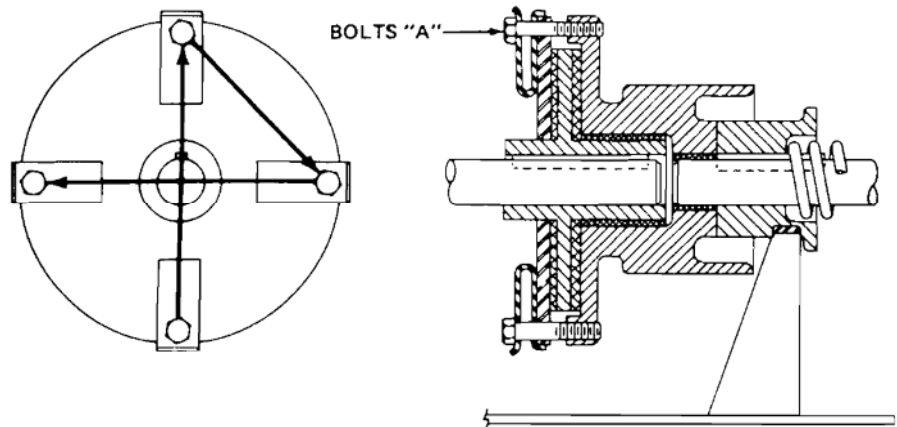

Figure 15
- (1) The clutch is designed to protect the equipment from shock loads that may occur in the system. Under normal operation, the clutch will not slip. The clutch should be adjusted to provide sufficient torque for the operator to start and stop the gate without slipping. However, it must not be so tight that it cannot slip under excessive loads.
- (2) To adjust the clutch, tighten the bolts marked "A" as shown in Figure 15. Never tighten bolts **consecutively**, but always directly across from each other so as to provide even tension. An **equal turn** of each bolt is an important adjustment procedure.